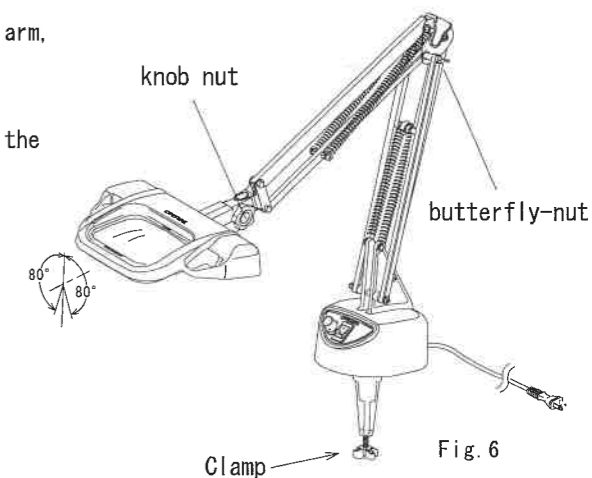

Fig. 6
- When you want to change the elevation angle of the lens part, Move it after loosening a knob nut. In the case of the turn of the direction ( $\pm 80^\circ$ ) to show in the Fig.6, it is not necessary to clamp it.